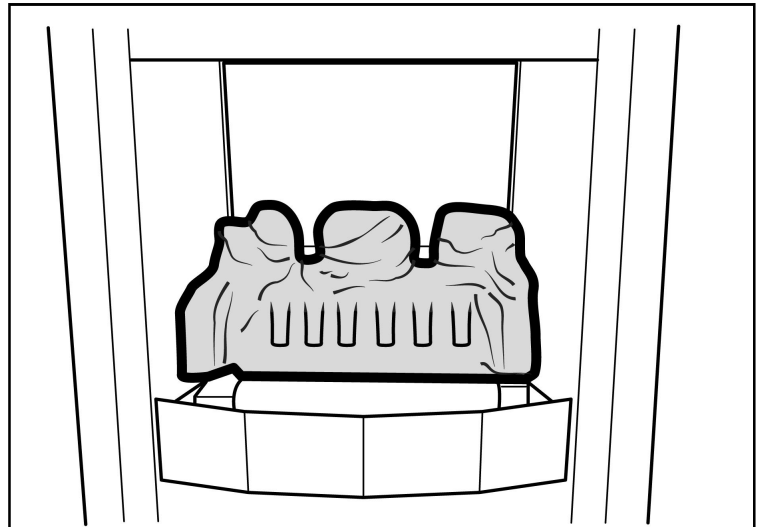

Figure 4. Rear Base Coal Position
1. Place the rear base coal in the firebox. It should rest on the ledges at the rear sides of the burner unit. When located gently move the rear base coal so that it is as far forward as possible. The amount of movement will be negligible (See figure 4).